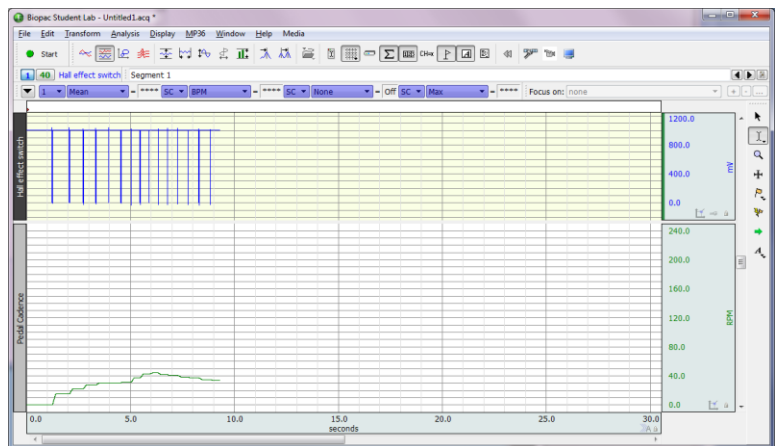

Figure 7
8. Test the setup by clicking **Start** to begin a recording and then rotate the pedals a few rotations, and then click **Stop**. The data should look similar to that in Figure 7. CH1 baseline level should reside at 1000 mV and negative going pulses should indicate when the magnet passed by the Hall effect switch. The pedal cadence should show changes in RPM corresponding to interval between switch pulses.